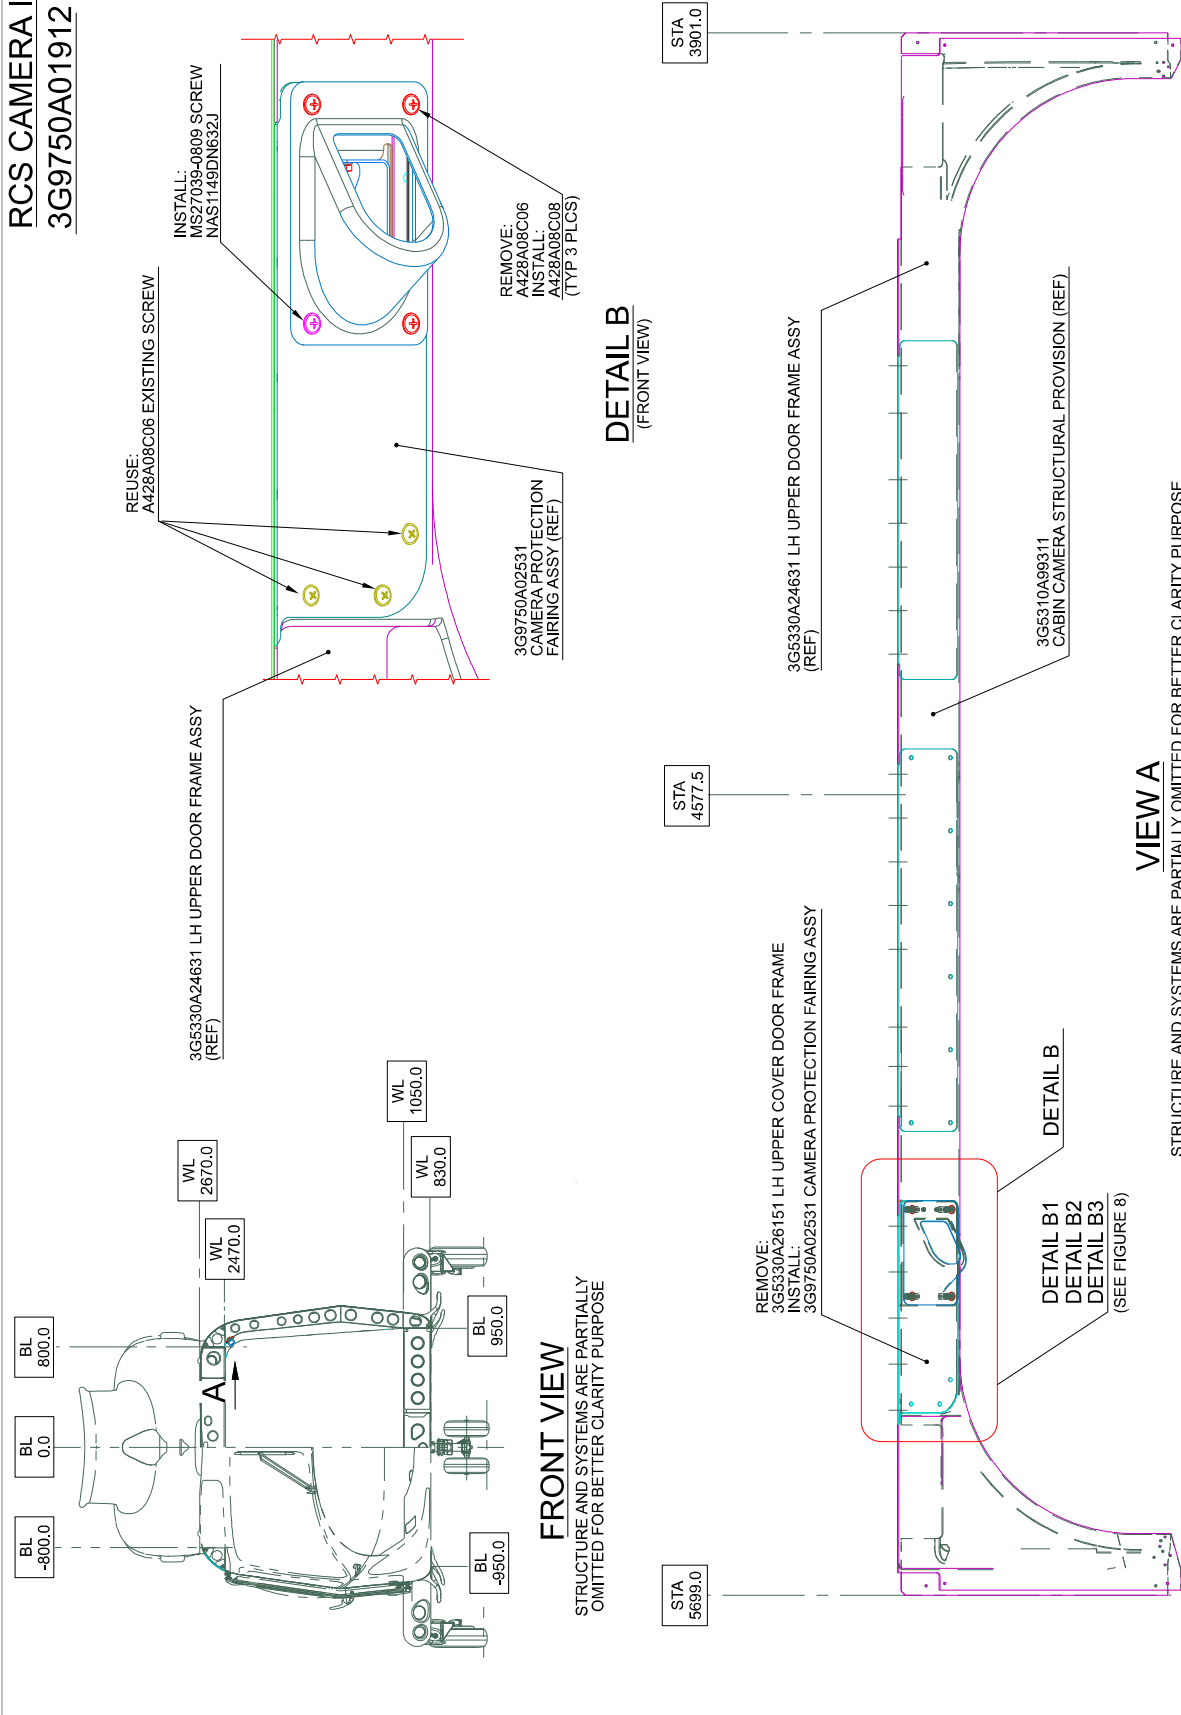

Figure 7
- 8.3 With reference to Figure 7 Detail B, remove and retain the camera protection fairing assy P/N 3G9750A02531 from the LH upper door frame assy and from the interface support assy P/N 3G9750A02331 and its relevant hardware.
- 8.4 With reference to Figure 7 View A and Figure 8 Detail B2, remove the 3 existing anchor nuts from the LH upper door frame assy P/N 3G5330A24631.
- 8.5 With reference to Figure 7 detail B, remove the existing 3 screws P/N A428A08C06 from the LH upper door frame assy P/N 3G5330A24631.
- 8.6 With reference to Figure 7 View A, remove the LH upper cover door frame assy P/N 3G5330A26151 and its relevant hardware. Retain the hardware for later reuse.
- 8.8 With reference to Figure 7 and Figure 8 Detail B1, install the camera protection fairing assy P/N 3G9750A02531 on the LH upper door frame assy and on the interface support assy P/N 3G9750A02331 by means of existing n°3 screws, n°3 screws P/NA428A08C08, n°1 screw P/N MS27039-0809 and n°1 washer P/N NAS1149DN632J. In accordance with DM39-A-20-00-00-00A-711A-A, tighten the n°7 screws to the standard torque value.